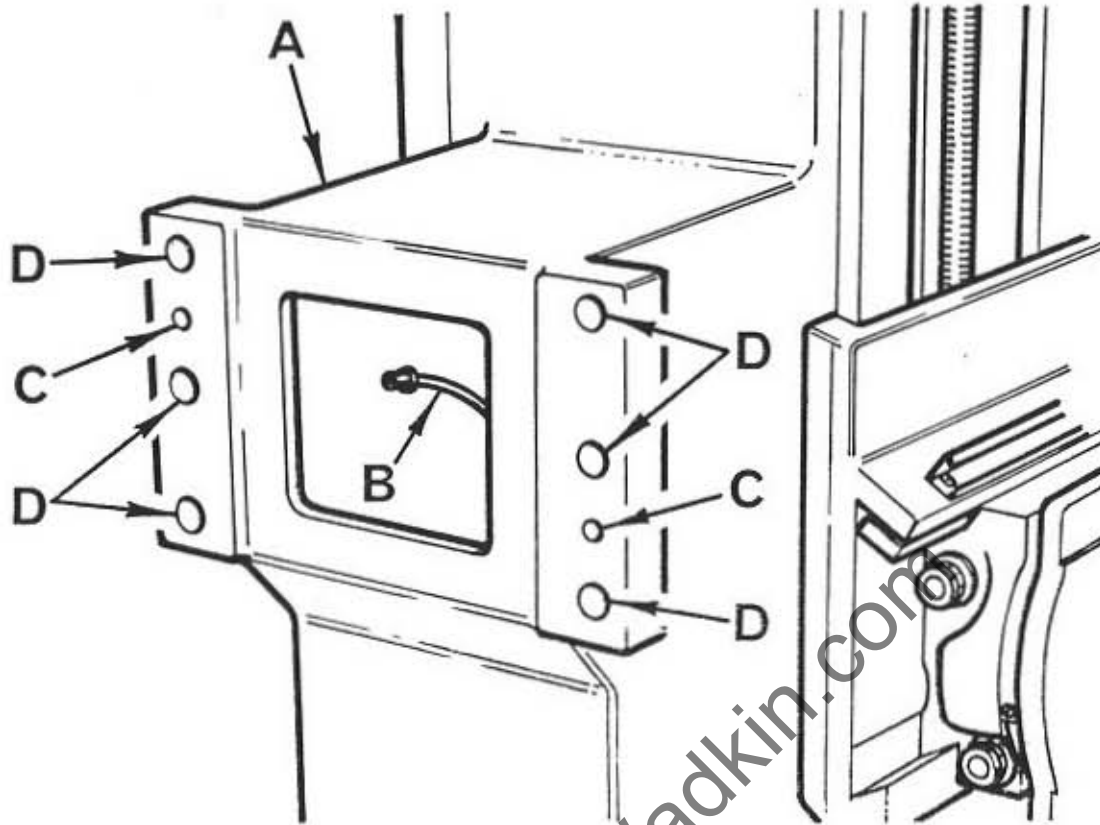

Fig 1
1. Place sling around chain beam for fixed column then lift into a position near to the mounting bracket "A" in FIG 1